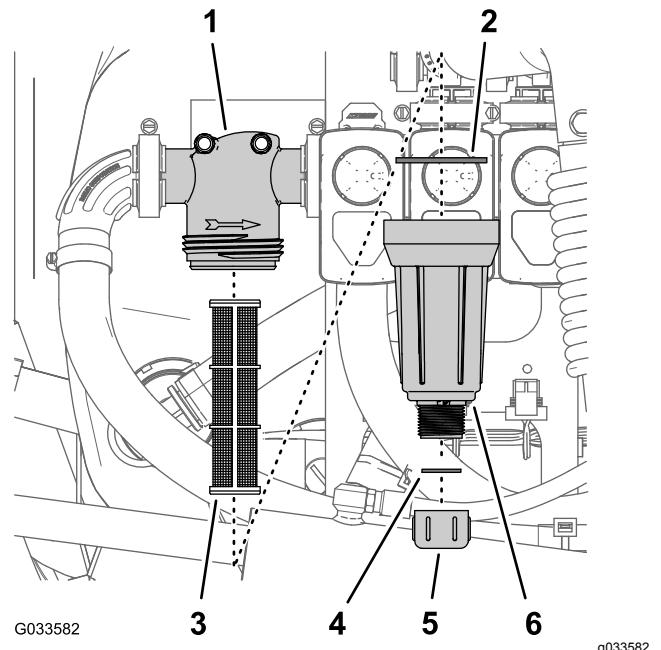

Figure 106
3. Rotate the drain cap counterclockwise and remove it from the bowl of the pressure filter (Figure 106).
4. Rotate the bowl counterclockwise and remove the filter head (Figure 106).
5. Remove the old pressure filter element (Figure 106).
6. Check the gasket for the drain plug (located inside the bowl) and the gasket for bowl (located inside the filter head) for damage and wear (Figure 106).
7. Install the new pressure filter element into the filter head (Figure 106).
8. Install the bowl onto the filter head, and tighten by hand (Figure 106).
9. Assemble the drain cap onto the fitting at the bottom of the bowl, and tighten the cap by hand (Figure 106).
- Align a drain pan under the pressure filter (Figure 106).